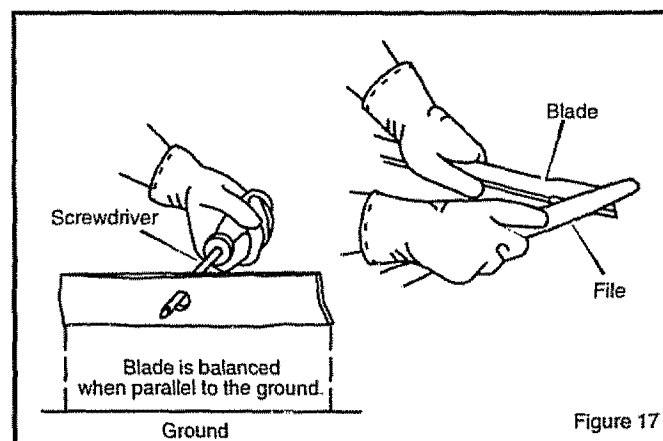

Figure 17
4. Sharpen the blade with a file (Figure 17). Make sure you keep the original bevel angle.
5. Make sure the blade is balanced. Use a screwdriver and hold the blade parallel to the ground (Figure 17). A blade that is balanced will stay parallel to the ground. If the blade is not balanced, the heavy end will rotate toward the ground. Sharpen the heavy end until the blade is balanced.